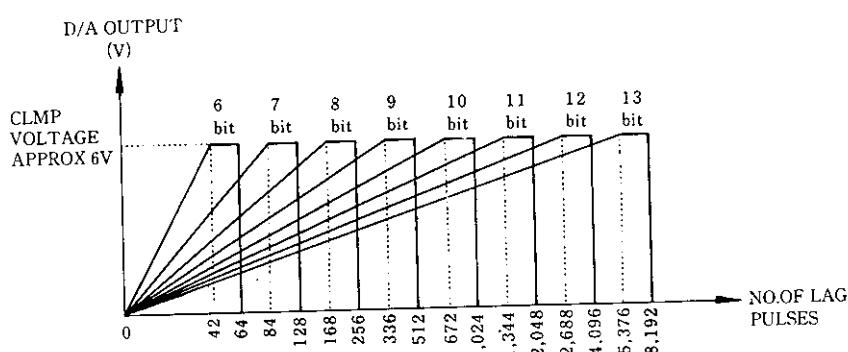

Fig. 7.3 Relation of Lag Pulses and D/A Output
- (3) Fig. 7.3 shows the relation of the number of deviation counter lag pulses (ε) and D/A converter output with D/A gain setting bits.